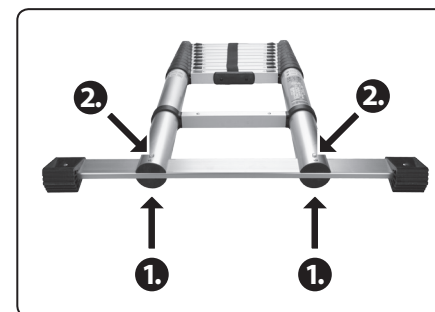

Fig. 2
- Put the ladder down on the ground and into the grooves on both ladder tubes insert the base with the support feet so that the holes on the base are located in alignment with the holes in the ladder tubes (fig. 2, step 1).
- Then secure the base to each ladder tube using a bolt so that the bolt head is on the side of the ladder where the locks are on both sides of the rungs (fig. 2, step 2).